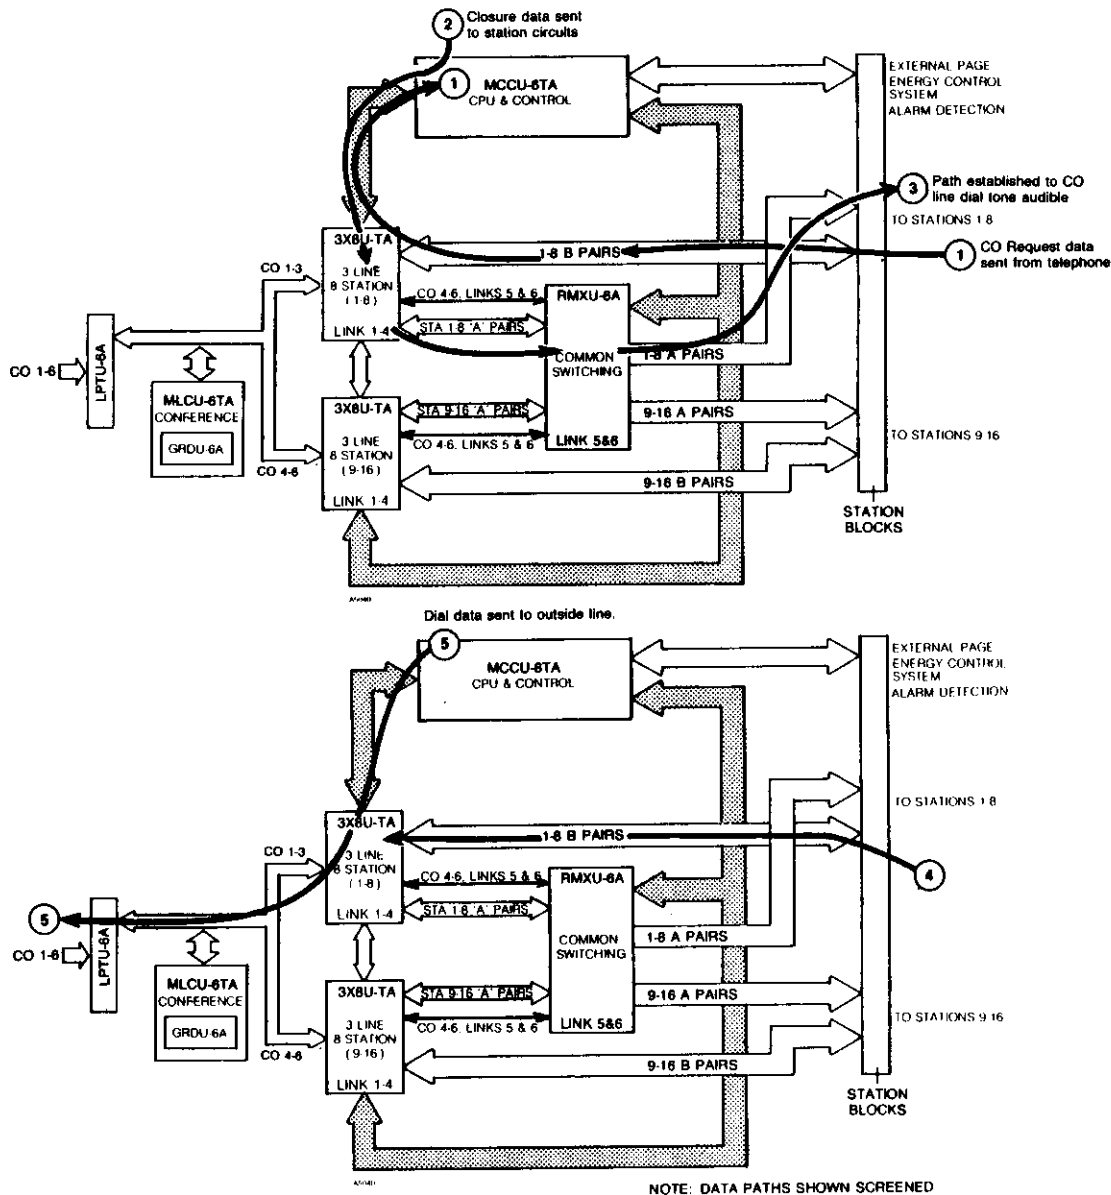

Figure 7-14 PLACING AN OUTSIDE CALL, EK-616
9.03 When a telephone user wants to make an outside call, an idle line key is pressed. This causes CO request data to be sent, via the data gating circuits on the 3X8U-TA PCB, to the CPU for processing (Figure 7-14, signal 1). Relay matrix closure data is output to the 3X8U-TA PCB, where a relay closure between the requesting station "A" pair and the requested line occurs (Figure 7-14, signal 2). An audio path is established between the CO line and telephone (Figure 7-14, signal 3), the line key LED illuminates steadily and dial tone may be heard on the handset (or speakerphone, if the SPDU option is installed).
9.04 The receipt of dial tone at the telephone allows the dialing sequence to begin. Dialer key closures are encoded on the station CPU and sent in the serial data stream to the MCCU-6TA PCB (Figure 7-14, signal 4). The dial data is converted into outpulse or DTMF dial digits on the MCCU-6TA and is sent through the line circuits in the 3X8U-TA to the outside line selected. Central Office dialing begins.